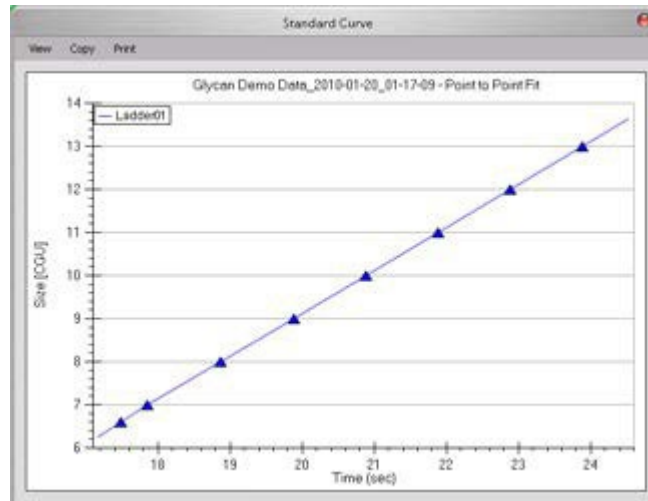

Figure 15. Standard Curve - Glycan
- 5 The ladder is analyzed (see Ladder Analysis on page 282) and a standard curve of migration time versus mobility is plotted from the ladder by interpolation between the individual glycan/migration points. The standard curve derived from the data of the ladder well should resemble Figure 15.